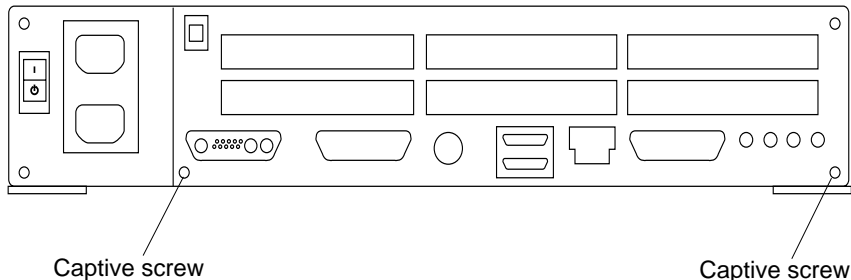

FIGURE 11-41 System Board Captive Screws
4. Tighten the captive screws at the back of the chassis (FIGURE 11-41).